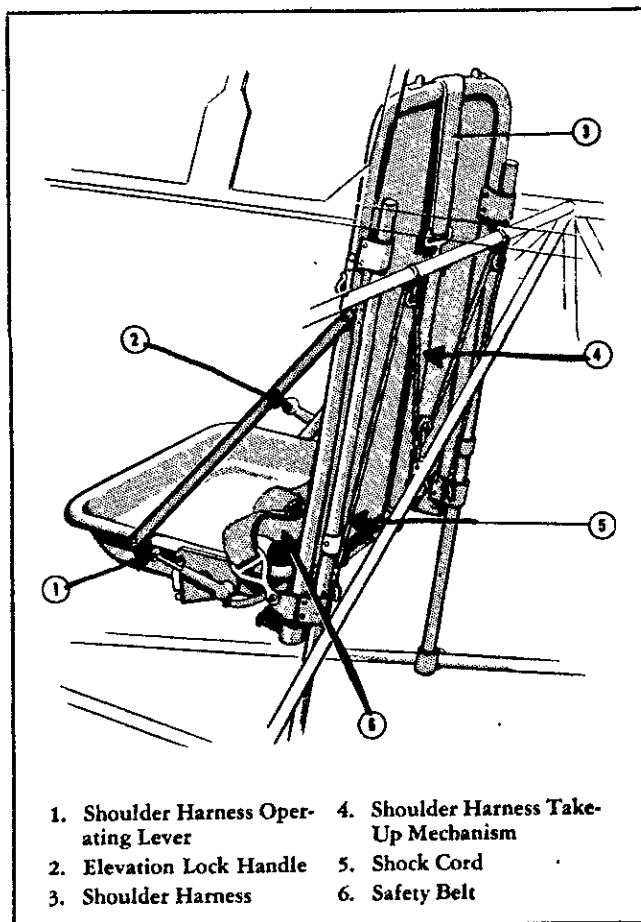

Figure 16—Pilot Seat
(2) Adjust the seat level to obtain full rudder travel. (See figure 16.)